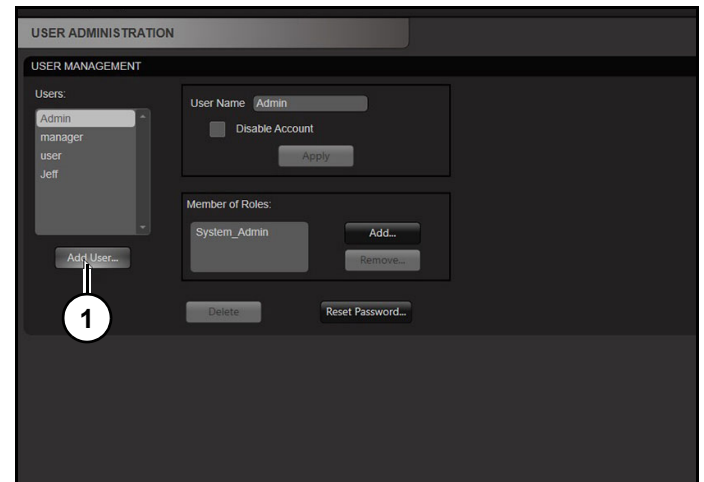

Figure 48
1. Click "Add User" (1) (Figure 48).